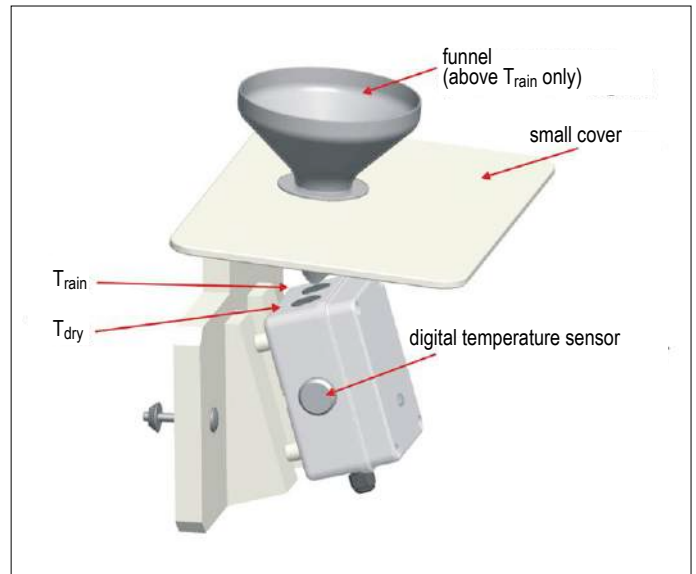

Figure 2. This is how the rain detector can be built in practice.
**Figure 2** gives an impression of the housing for the rain detector, which the author fabricated using a 3D printer. The enclosure